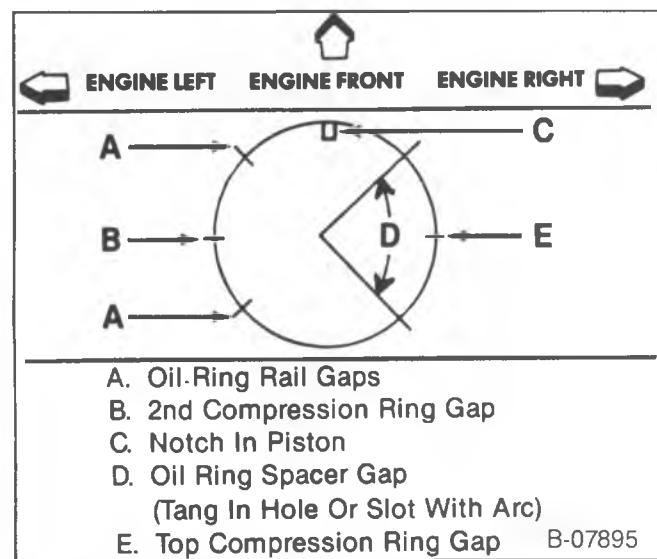

Figure 48—Piston Ring Gap Location
- 1. Connecting rod bearing inserts (55).
- Locate the piston ring end gaps as shown in figure 48. Lubricate the piston and rings with engine oil.